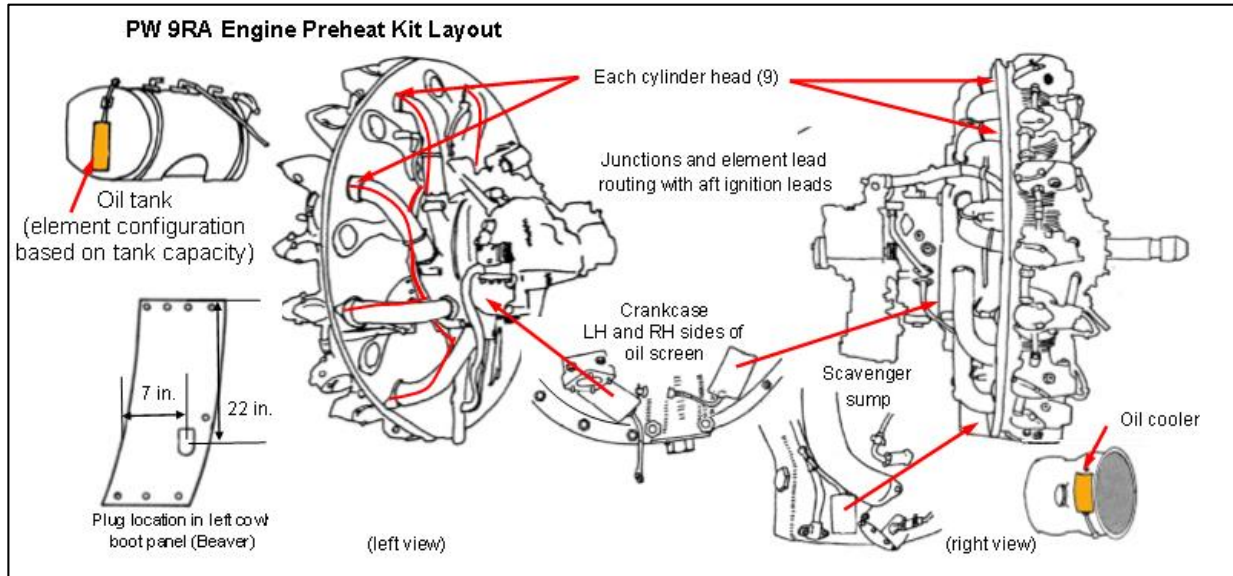

Figure 1 – Preheat kit layout:
6. Leads (Figures 1 through 11 and drawing 02903):